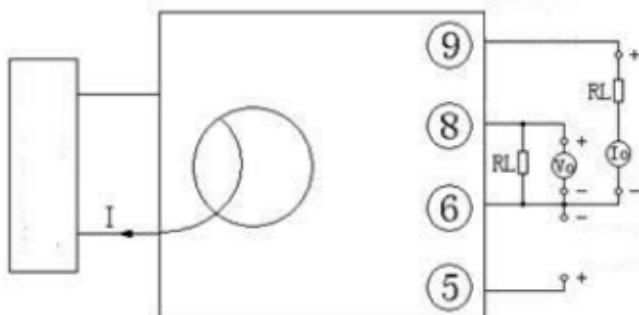

Figure 6, test wiring diagram of product accuracy.
①①① A high-precision high-current meter calibrator can directly input current as shown in figure 6, and record the display data of the meter calibration instrument.
② There is no high-current high-precision instrument calibrator, but an ordinary high-precision instrument calibrator. Use ampere-turn method to output small current (5A, 10A or higher), and input it to the transducer input coil. The precision ammeter is tandem connection to the calibrator output end to detect input current, and convert the input current I value according to the ampere-turn method.